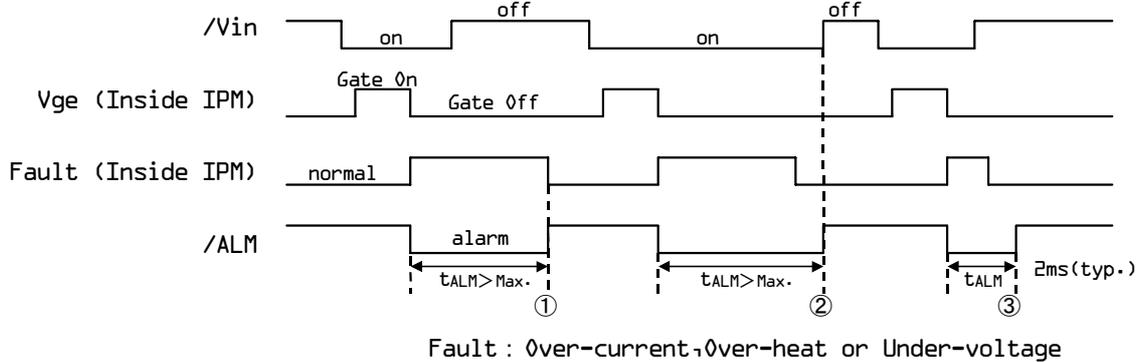

Figure 2. Input/Output Timing Diagram
Necessary conditions for alarm reset (refer to ① to ③ in figure2.)
- ① This represents the case when a failure-causing Fault lasts for a period more than t_{ALM} .